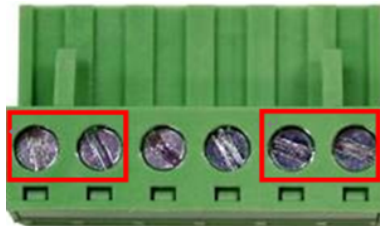

Figure 2.7 - Power Terminal Block
2. Tighten the wire-clamp screws to prevent the wires from loosening, as shown below in Figure 2.7.